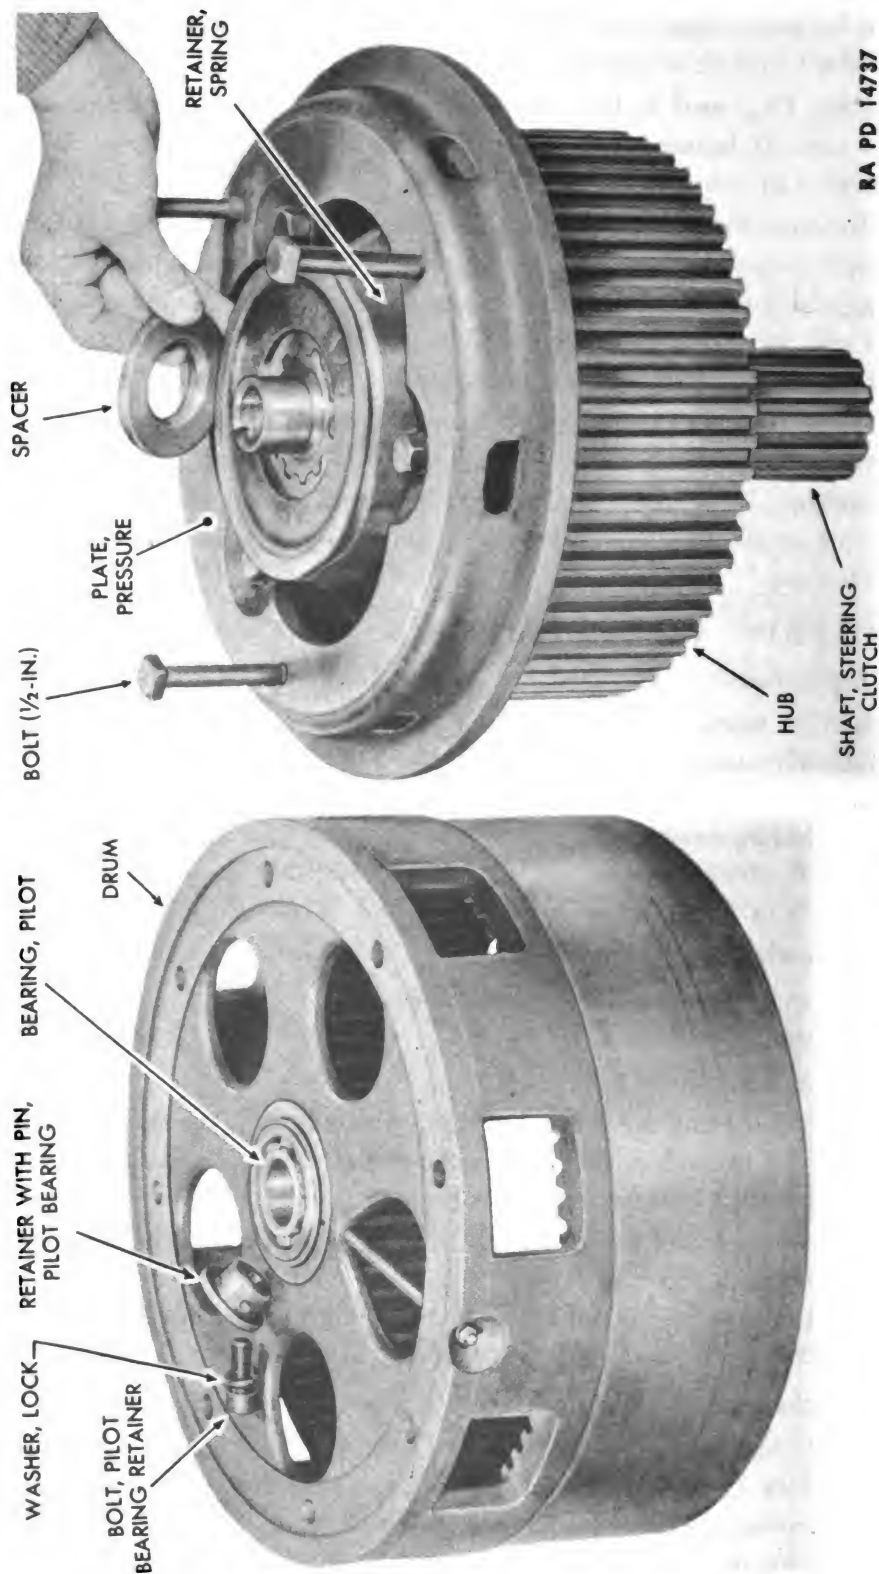

Figure 106 — Steering Clutch Shaft Installation
(2) COMPRESS STEERING CLUTCH SPRING WITH BOLTS (fig. 106).
(3) INSTALL SHAFT AND DRUM (fig. 106).